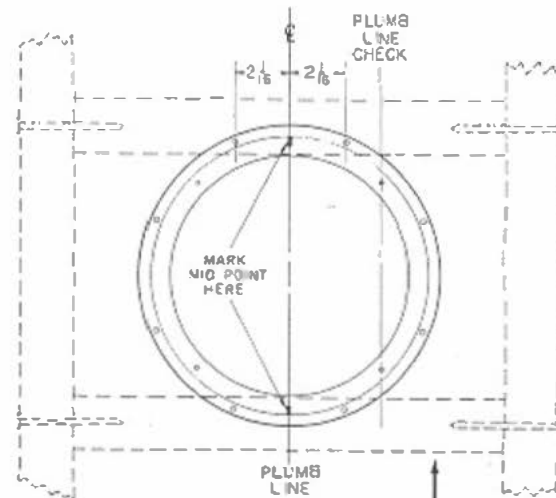

Figure 5.
2. Nail 2 by 2's in place and install Plaster Ring as shown in *figure 5* after lath has been applied.